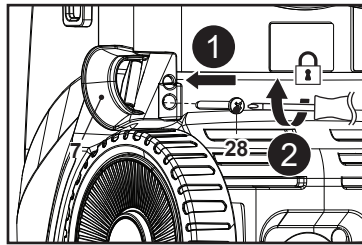

Fig. 2
Align the mounting hole on the hose guide (7) with its rest on the machine, then use a suitable cross-head screwdriver (not supplied) to secure the connection with the screw (ST4.8 x 16 with big screw head) (28) (Fig. 2, steps 1, 2).